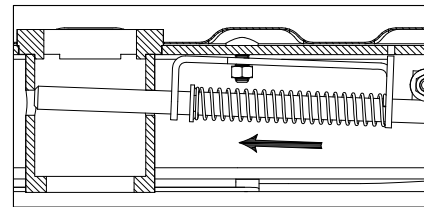
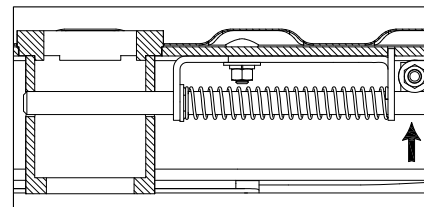

FIGURE E5: Cut-away of center section
FIGURE E6: Cut-away of center section
- Attach the latch to the center.** Compress the spring slightly by pushing the frame of the latch toward the socket and insert the tabs of the latch into the slots of the center section as shown in figure E5. Remove the $\frac{3}{8}$ " finish nut. Install a $\frac{3}{8}$ " flat washer, lock washer and finish nut. Tighten the hardware, securing the latch to the center section as shown in figure E6.